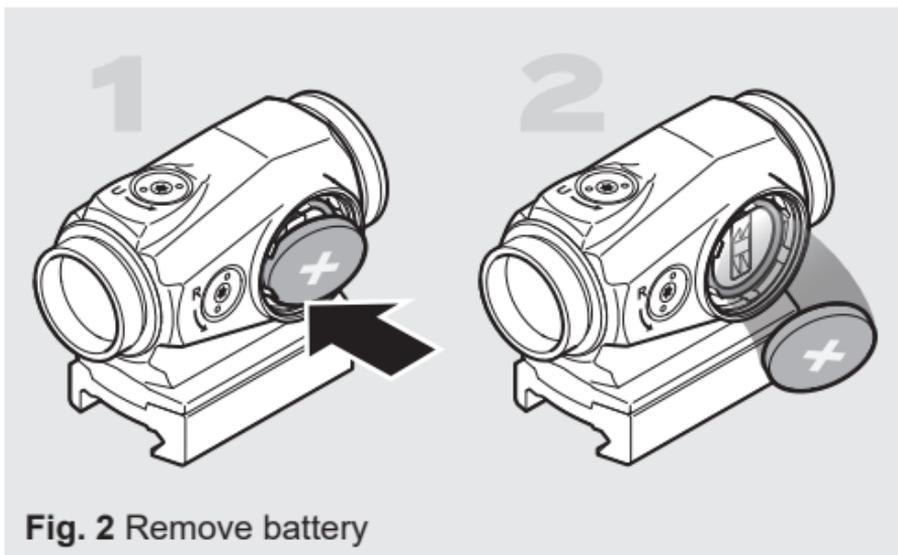

Fig. 2 Remove battery
- a Unscrew and remove the battery cap (4).
- b If replacing battery (5), remove depleted battery from the battery compartment by carefully pressing on an edge as shown in Fig 2.